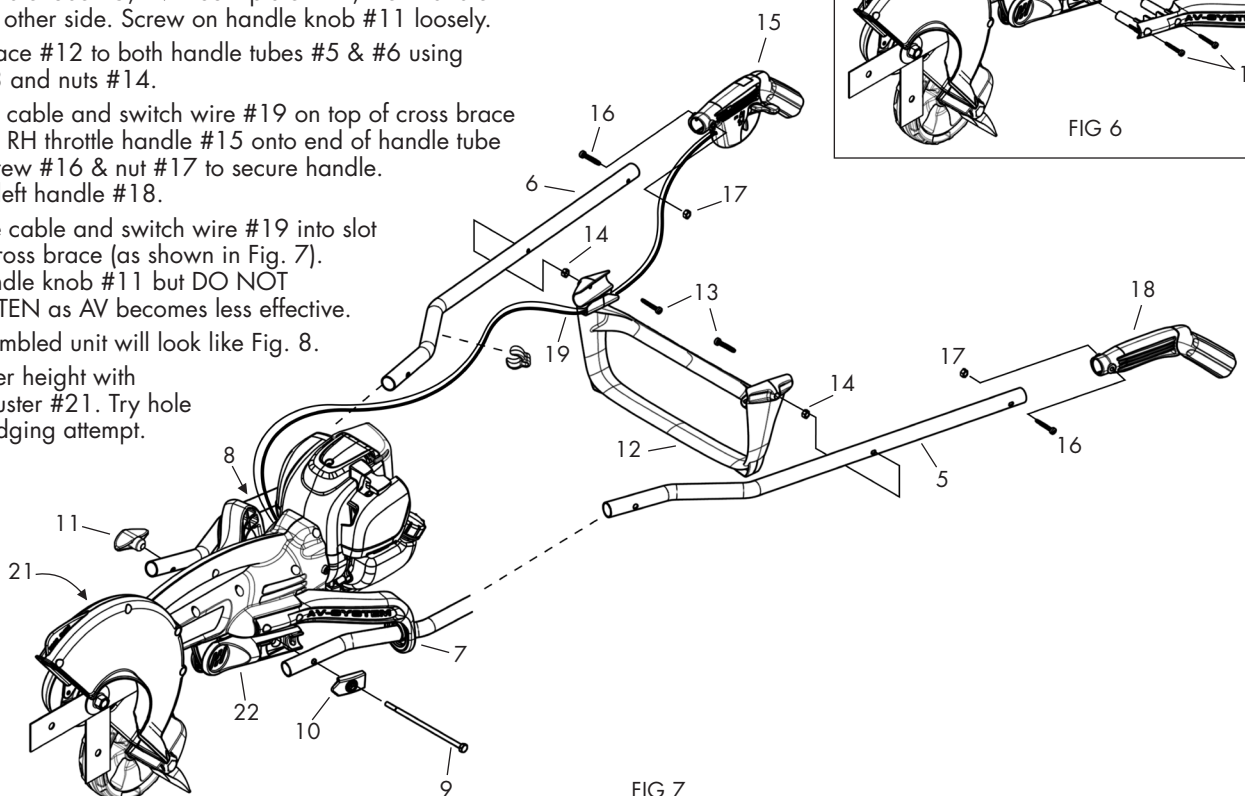

FIG 7
3. Slide handle tubes #5 & #6 through AV rubbers #7 & #8 into position. (Fig. 7)
7. Clip throttle cable and switch wire #19 into slot on top of cross brace (as shown in Fig. 7). Tighten handle knob #11 but DO NOT OVERTIGHTEN as AV becomes less effective.